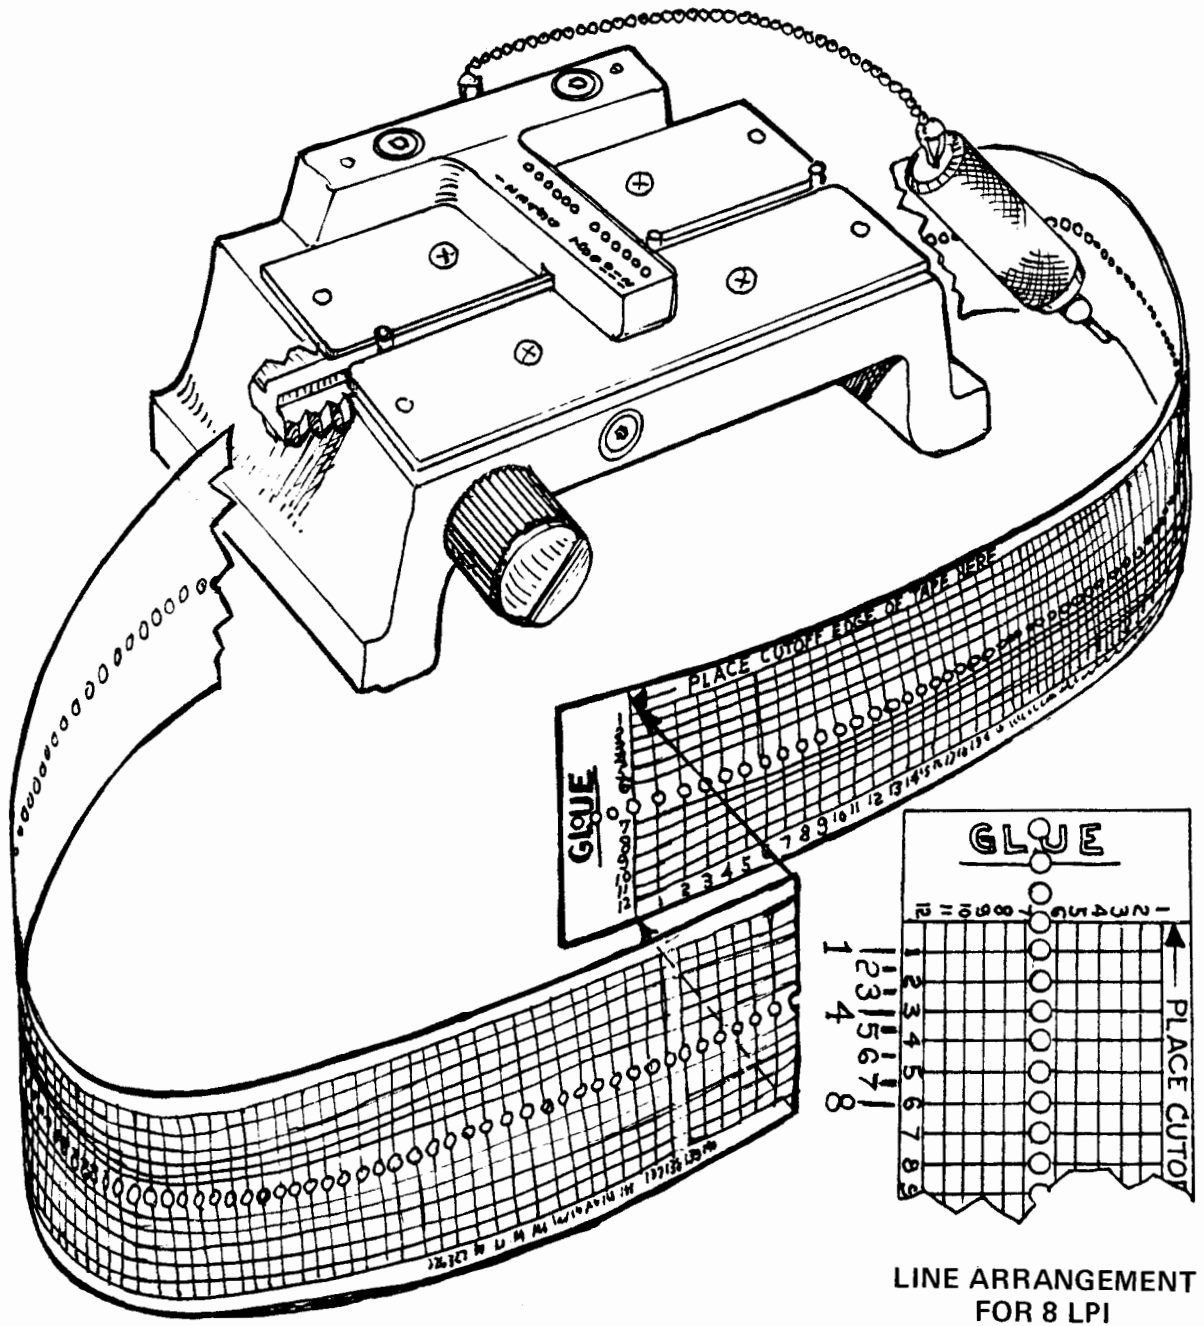

Figure 3-3. Twelve-Channel 6-8 LPI Punch and Tape
Twelve channel format tape is preprinted with guide lines to assist layout, manual punching, and splicing, as shown in Figure 3-3. The tape has 12 columns, called channels, indicated by numbered vertical lines. The solid line through the fourth feed hole from the top of the tape represents the top edge of the form (not TOF). The consecutively numbered horizontal lines and feed holes are spaced six to the inch.
After a tape is punched, using the #4567 6-8LPI Tape Punch, it should be cut, looped, and cemented, as shown in Figure 3-3. Be sure that the end of the tape is aligned with the solid line near the top end.
4. After a tape is punched, it should be cut, looped, and cemented as shown in Figure 3-3. Be sure that the end of the tape is aligned with the solid line near the top end.